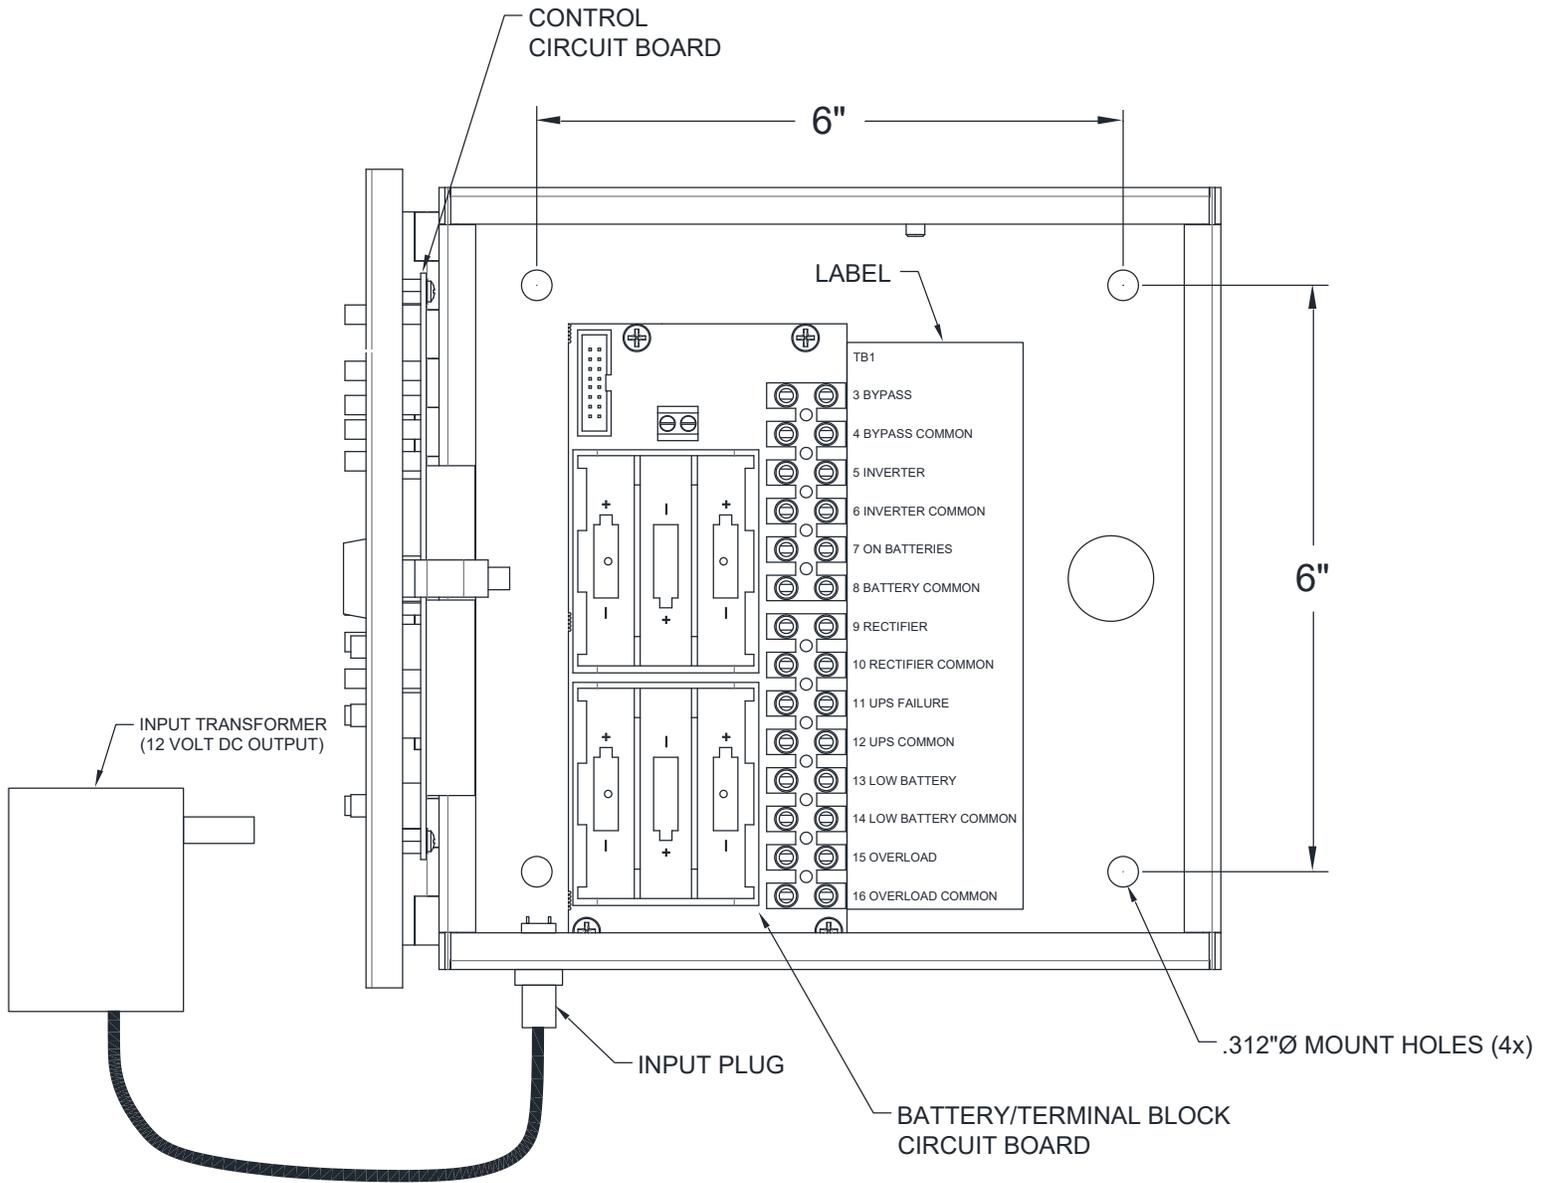

FIGURE 3.0
6. Referring to Figure 3.0, install 6 AA batteries (included). Batteries will provide about 8 hours of power in the event of a power failure. Replace yearly for optimum performance.
7. Referring to Figure 3.0, connect the power supply adapter into the corresponding jack located on the bottom left-hand side of the RSAP enclosure. Plug the power supply into a convenient 120V/60Hz wall receptacle. Failure to connect to a suitable wall outlet will drain the RSAP's internal batteries and/or result in damage to the monitor. (If supplied with the hardwire version, please refer to Figure 3.1 for AC input terminal block layout. Connect L1, Neutral, and Ground with minimum of 18awg wire.)